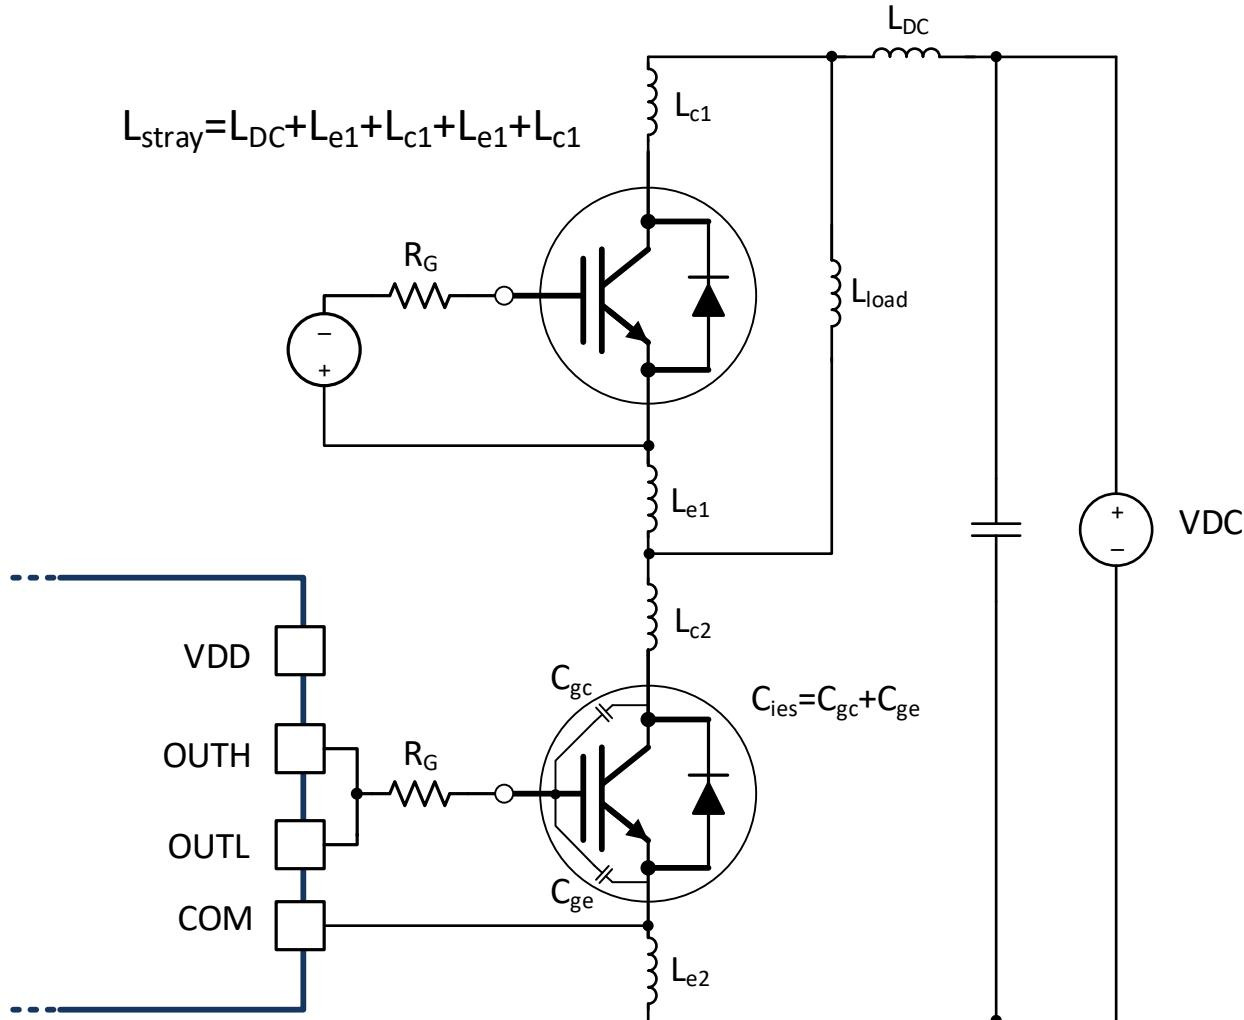

図 8-6. Stray Parasitic Inductance of IGBTs in a Half-Bridge Configuration
- L_{stray} is the stray inductance in power switching loop, as shown in 図 8-6